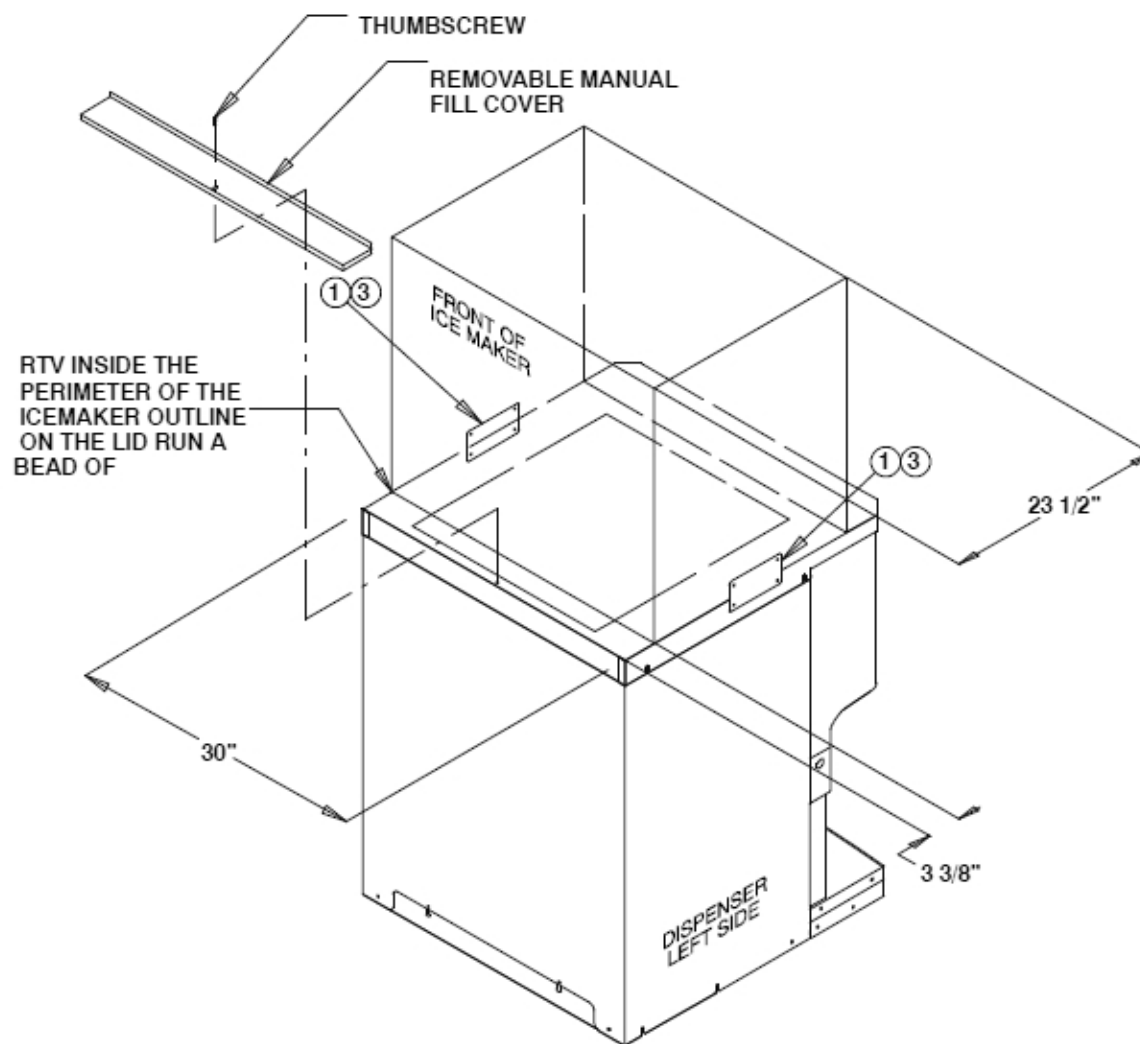

Figure 1. Dispenser Rear View
1. Seal the ice maker to the top of the dispenser as follows (see Figure 1).
- A. Locate the outline of the ice maker on the dispenser lid as shown in Figure 1.
- C. Set the ice maker onto the lid and position it as shown in Figure 1.